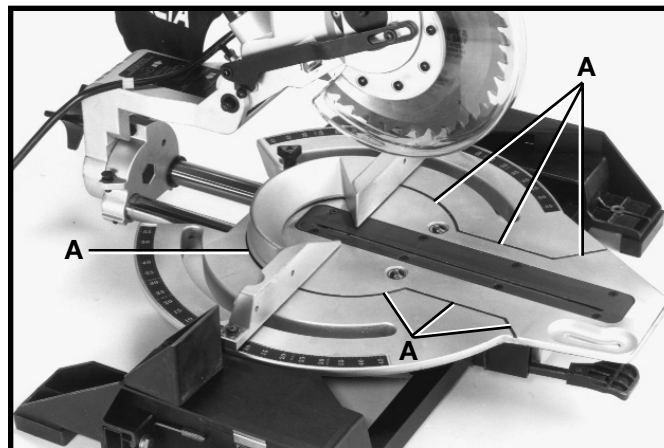

Fig. 37
⚠ WARNING: THE AREA INSIDE THE RED LINE (A) FIG. 37, ON THE TABLE IS DESIGNATED AS A HAZARD ZONE. NEVER PLACE YOUR HANDS INSIDE THIS AREA WHILE THE TOOL IS BEING OPERATED.